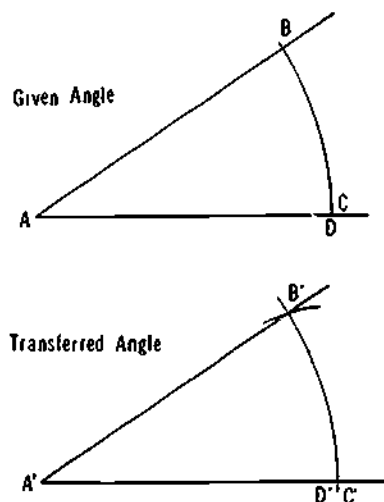

Figure 5-14. Transferring an Angle
**Transfer an angle** Draw A'C' in the new location (Figure 5-14). From centre A, draw an arc BD. From centre A' strike an equivalent arc to locate D'. Using radius DB, and centre D' make an arc to locate B'. Join A' to B'.